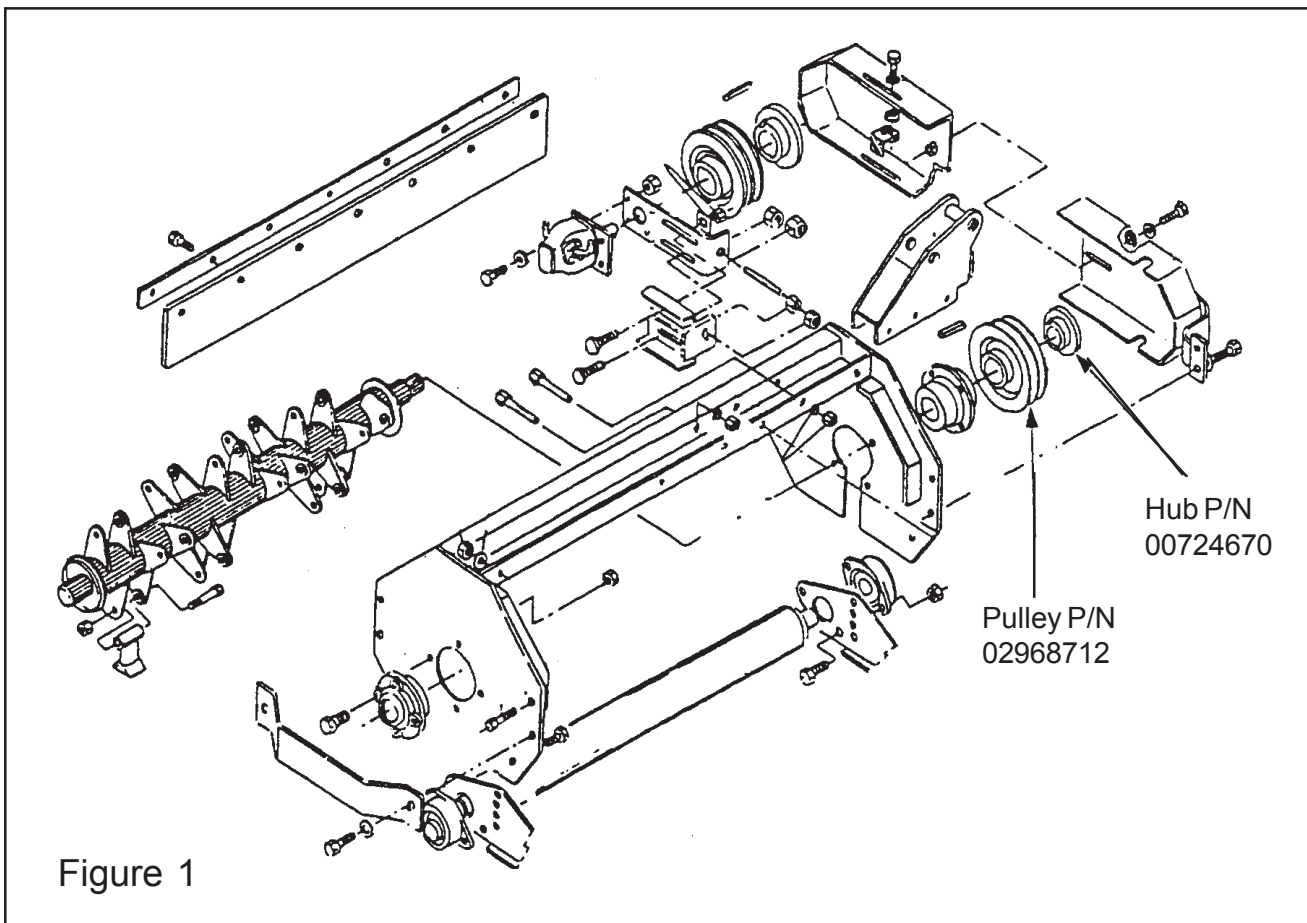

Figure 1
To insure the safety of the operator against instability of the tractor, it is crucial that the left rear tire of the tractor exert a minimum force (weight) of 1,000 pounds on the ground when the boom is at full extension and the cutter head is horizontal and two feet off the ground (Figure 1). An installation not meeting this requirement is dangerous and should not be operated as overturning the unit can occur resulting in injury or death. An installation meeting this requirement allows operation of the unit on slopes not exceeding 5°. For operating on slopes greater than 5°, contact Alamo Industrial Technical Service Dept. for additional information. The head and boom must be resting on the boom rest or the ground prior to removing or repairing Left rear Tire.
1. Position the Boom as shown in Figure 1.
2. Place a 210 pound weight at the outer edge of the mower head as shown in figure 1.